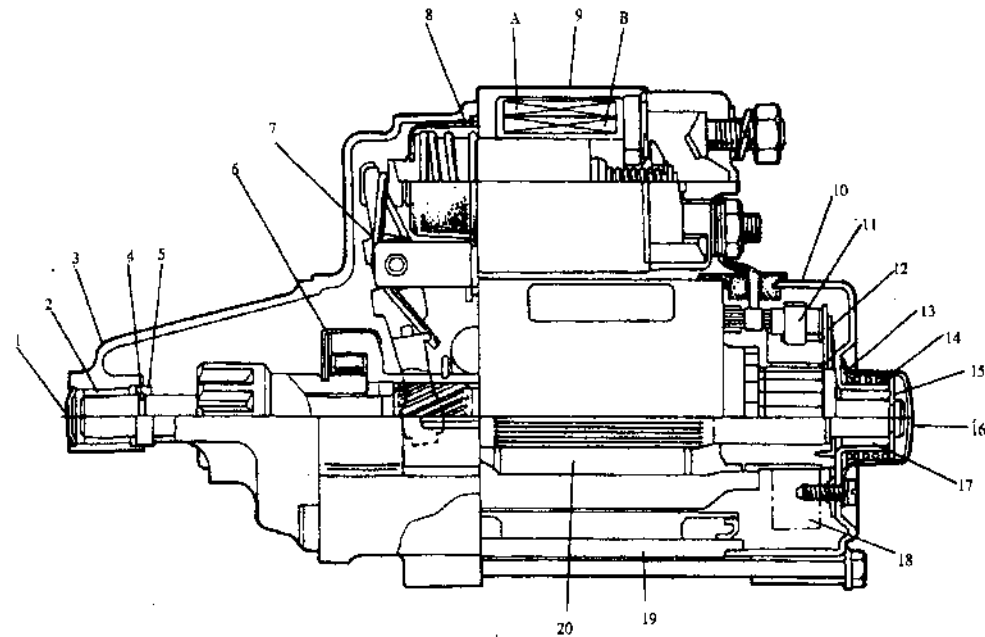

Figure 6.2-2
(I) See Figure 6.2-2 for structure.